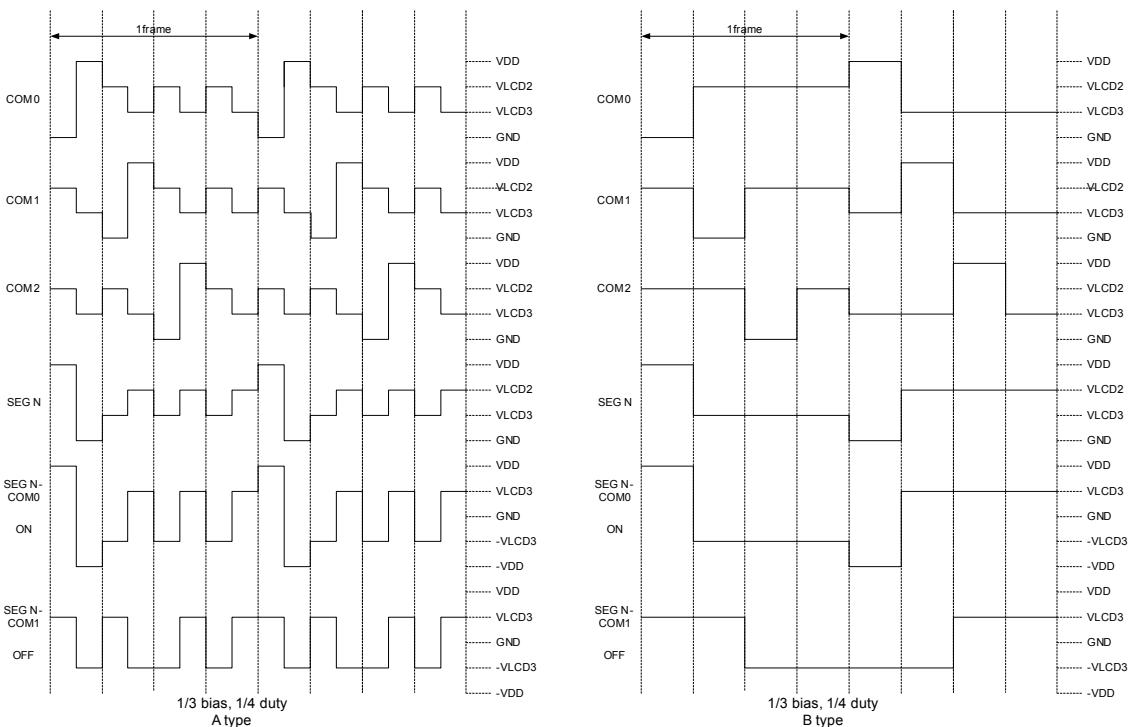

Fig. 21 LCD Waveform for 1/3 Bias, 1/4 Duty
This LSI can output infrared carrier in a friendly manner or in PWM standard waveform. The IR and PWM waveform generated functions include an 8-bit down count timer/counter, high-pulse width timer, low-pulse width timer, and IR control register. The IR system block diagram is show in Fig.21, The IROUT pin waveform is determined by IR control register (RE), IOC90 (Counter 1, 2 control register), IOCA0 (high-pulse width timer, low-pulse width timer control register), IOCC0 (Counter 2 preset), IOCD0 (high-pulse width timer preset register), and IOCE0 (low-pulse width timer preset register). Details on Fcarrier, high-pulse time, and low pulse time are explained as follows: